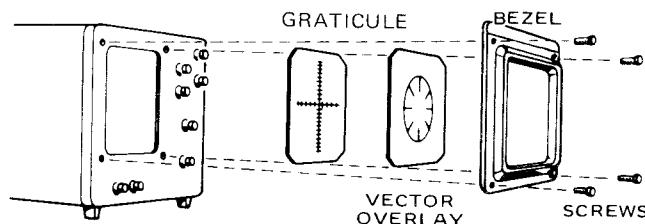

Fig. 24. Installation of vector overlay.
- Attach vector overlay to scope. Remove bezel, insert overlay and re-attach bezel (see Fig. 24).